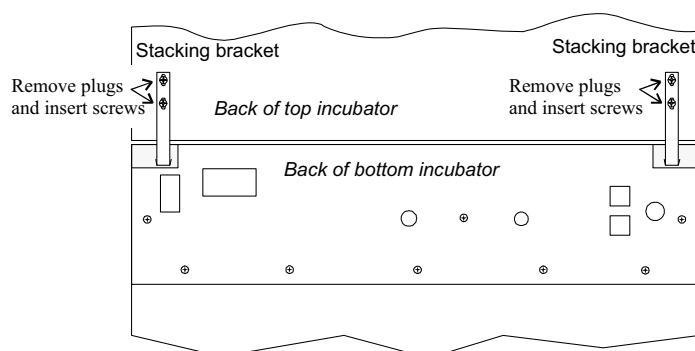

Figure 1-6
5. Align the sides of the top unit with the bottom unit and slide the top unit forward until the notches in the base of the top unit align with the (2) slotted screws in the top of the bottom unit.
7. Insert the stacking brackets into the slots on the back of the control panel of the bottom unit as shown in Figure 1-6. Align the slots in the brackets with the mounting holes on the back of the top incubator. Secure the brackets with the screws provided in the stacking kit.